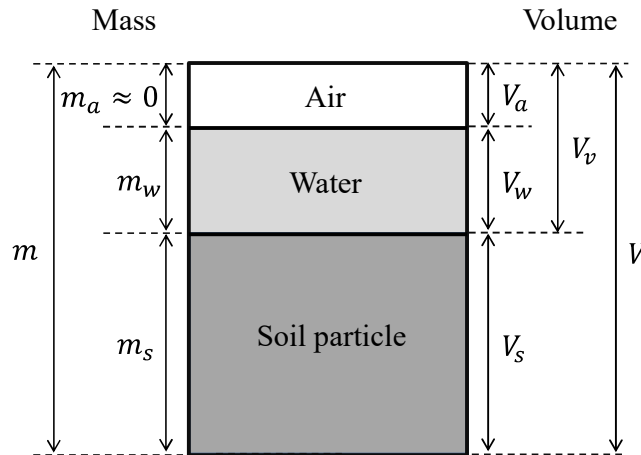

Fig. 1
- 1) Express the void ratio e , water content w (%), and degree of saturation S_r (%) using the notations shown in Fig. 1 (volumes and masses of the three-phase in soil).